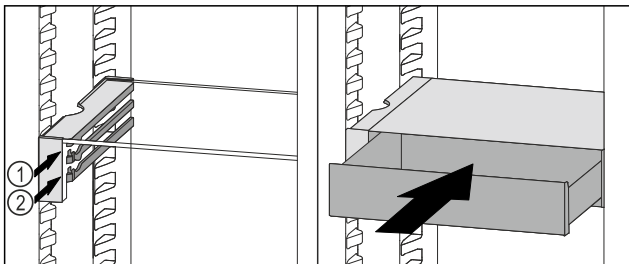

Fig. 182
- ▶ Place the VarioSafe drawer behind the stoppers on desired rib Fig. 182 (1) or Fig. 182 (2).